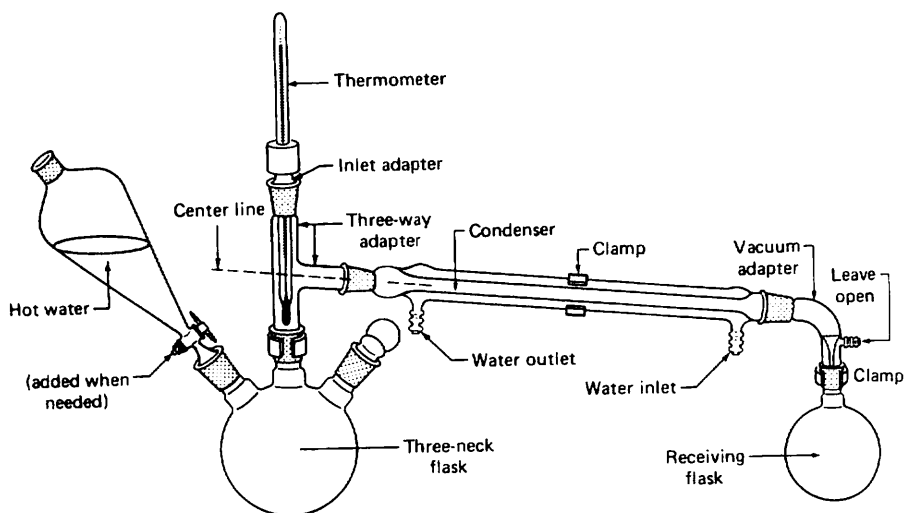

Fig. 106 An internal steam distillation setup.
1. You can add hot water to the flask (Fig. 106) that will generate steam and thus provide an **internal source of steam**. This method is used almost exclusively in an undergraduate organic lab for the simple reason that it is so simple.